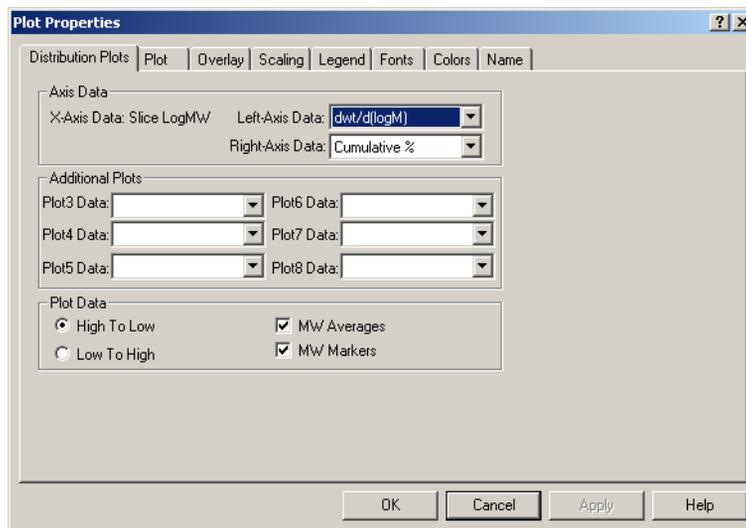

Figure 3-20 Customizing the Molecular Weight Distribution Plot
1. Right-click the Molecular Weight Distribution plot, then select **Properties**. The Plot Properties dialog box appears (Figure 3-20).